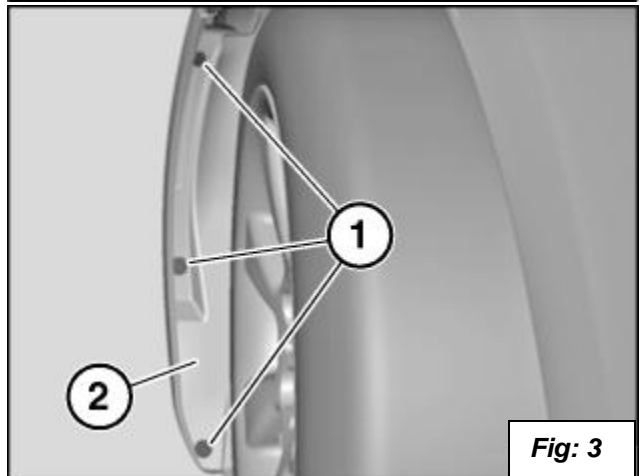

Fig: 3
5. On the left side remove the screws in location (1) and pry out the inner fender (2) to gain access to the two screws you will remove in the next step. **See figure 3**.